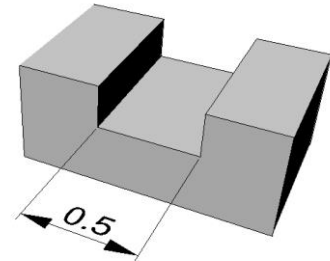

Figure 3
- At places where the polygons are adjoining each other, they must be separated by more than 0.5mm or the model cannot be formed properly. (Figure 3)